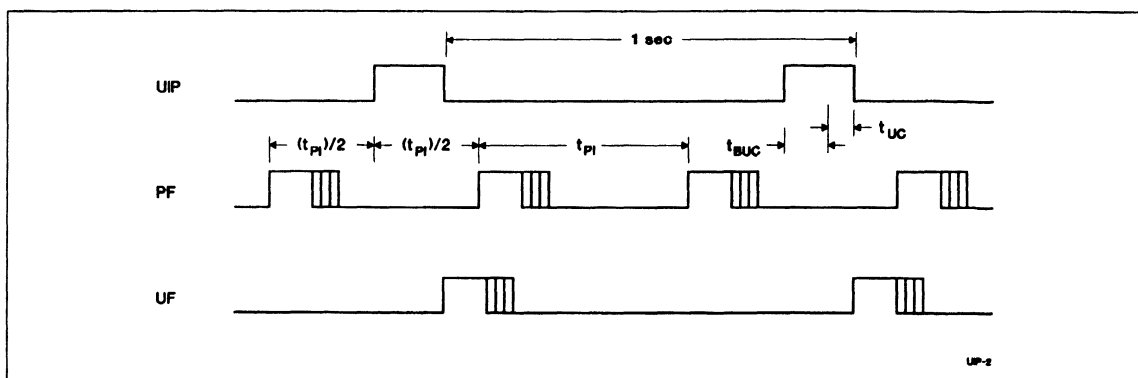

Figure 3. Update-Ended/Periodic Interrupt Relationship
- Enable the update interrupt event to generate interrupt requests at the end of the update cycle. The interrupt handler has a maximum of 999ms to access the clock bytes before the next update cycle begins (see Figure 3).
- Poll the update-in-progress bit (UIP) in register A. If UIP = 0, the polling routine has a minimum of  $t_{BUC}$  time to access the clock bytes (see Figure 3).
- Use the periodic interrupt event to generate interrupt requests every  $t_{PI}$  time, such that  $UIP = 1$  always occurs between the periodic interrupts. The interrupt handler will have a minimum of  $t_{PI}/2 + t_{BUC}$  time to access the clock bytes (see Figure 3).